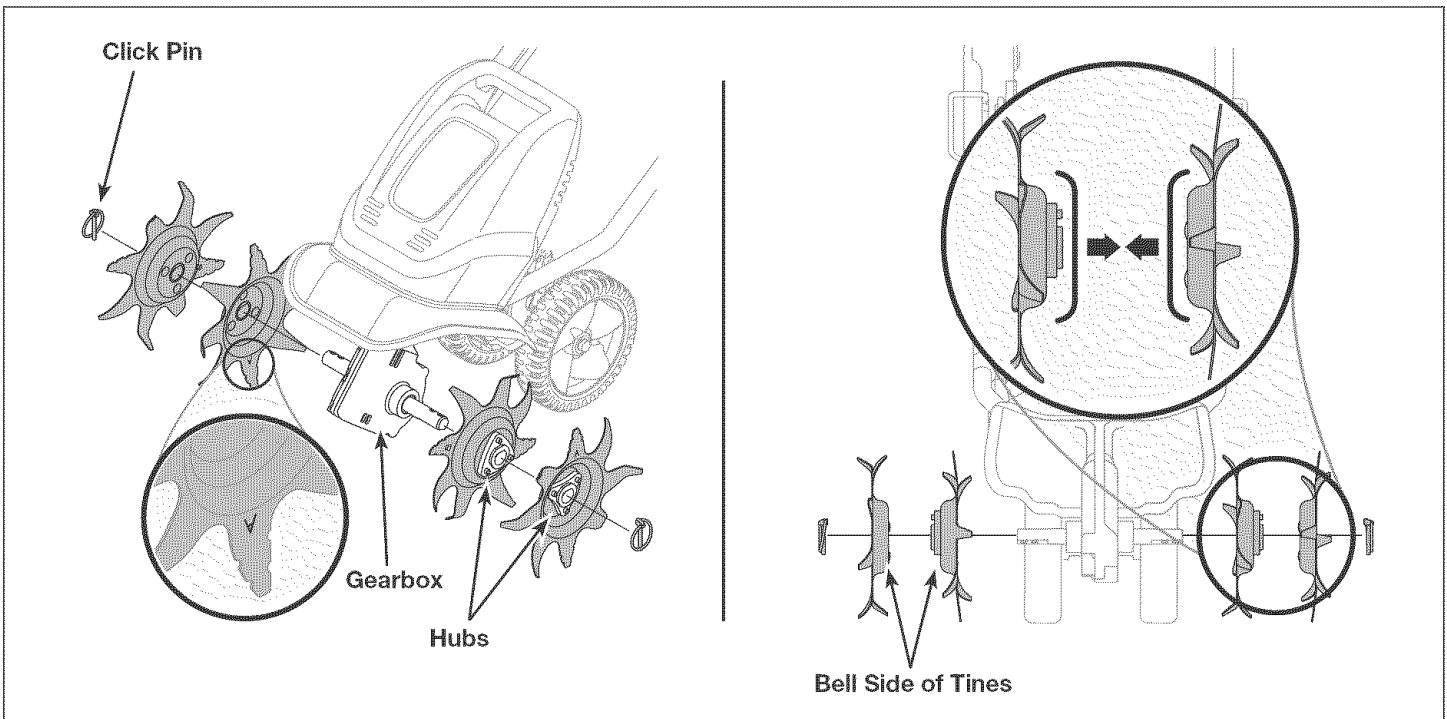

Fig. 9
NOTE: Each tine assembly is stamped either "A" or "B" (Fig. 9). Note each tine's location on the shaft for easier reassembly
- The bell sides of both tine assemblies (on each shaft) should face each other (Fig. 9).
- The hub of each tine assembly (Fig. 9) should face outward (away from the cultivator's gearbox).